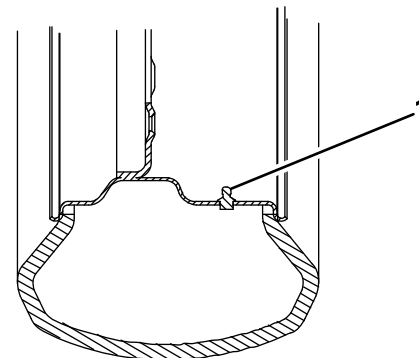

Figure 3
**Note:** If the valve stem does not extend outward from the rim, install the curved valve stem extension (Figure 3) before installing the straight extension.